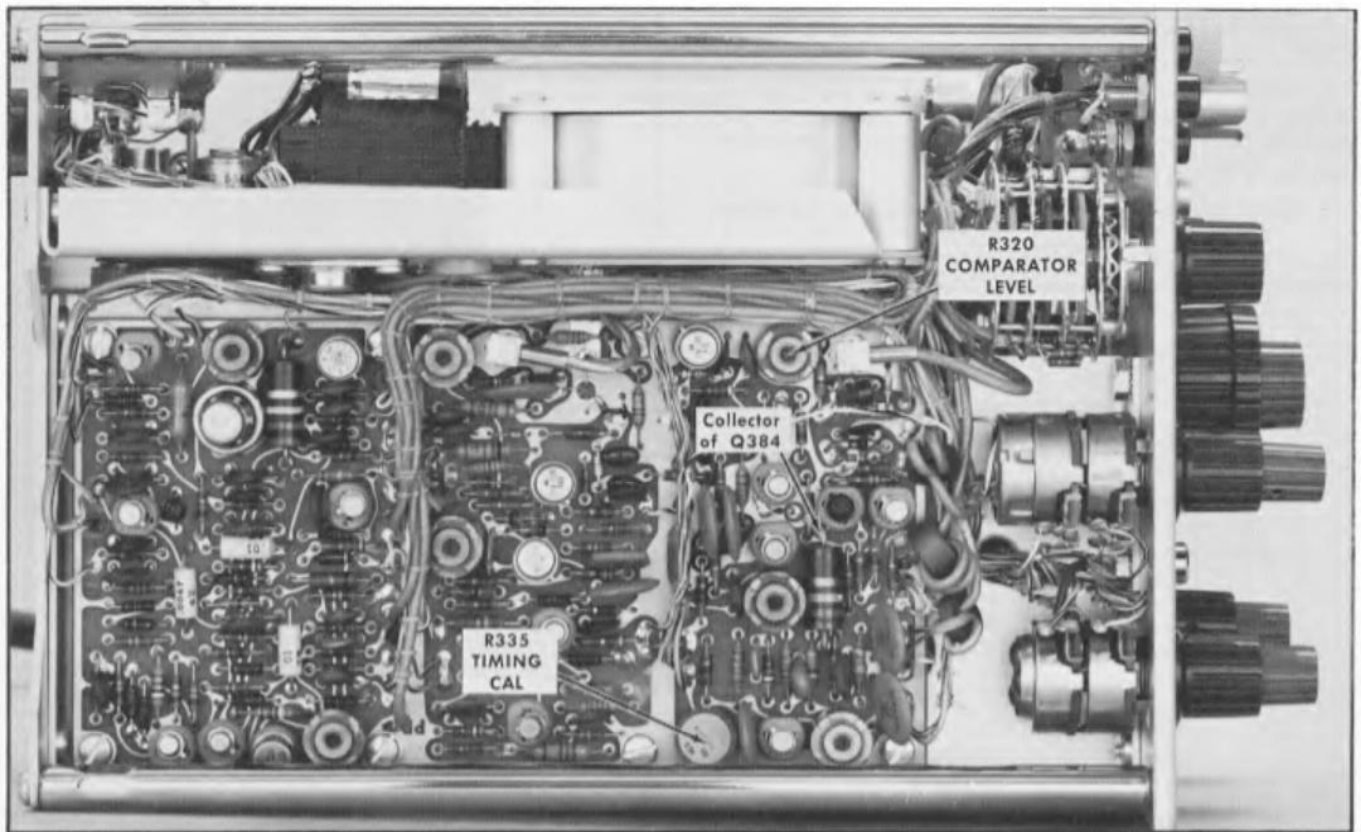

Fig. 5-18. Fast ramp and comparator adjustments on right side of Type 151 (unit is positioned upside-down on test bench).
z. Adjust R335 (TIMING CAL) if the timing is not correct. See Fig. 5-18 for the location of R335.
g. Connect the test probe to the collector of Q384 (See Fig. 5-18).
j. Adjust R320 (COMPARATOR LEVEL) if the display is not as indicated. See Fig. 5-18 for the location of R320.